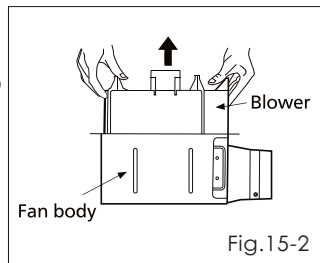

Fig.15-2
2. Remove blower section. (Fig.15-2)